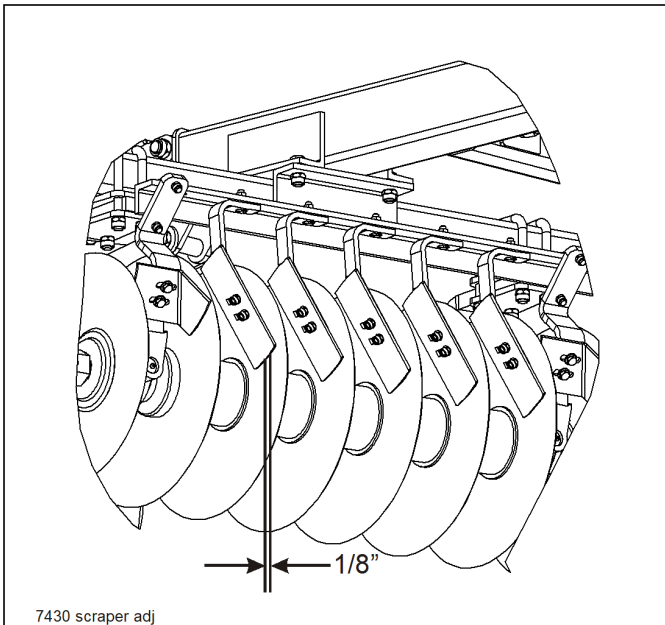

Figure 4-11: Scraper Adjustment
1. Rigid scrapers should be set initially as close to the disc blade as possible without rubbing (approximately 1/8") (See Figure 4-11.) A slotted hole at the top of each scraper is provided for individual adjustment. Adjustments may be made for entire gangs, by loosening the u-bolts around the angle-iron scraper bars and sliding the whole bar. Scraper arms are made of spring steel. In wet conditions, the scraper may be set against the disc blade and will function as a spring-loaded scraper.